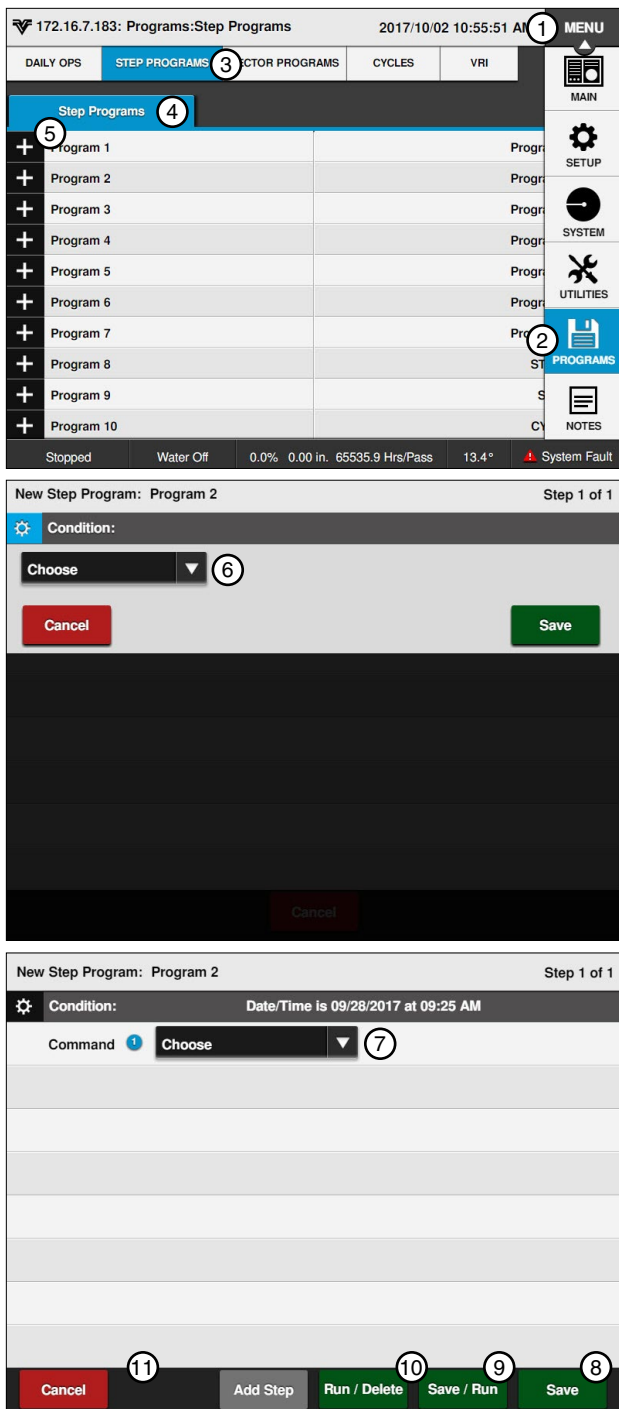

Figure 100-1 1. Menu 7. Choose Command
2. Push the **New Program** button corresponding to the preferred program number as shown in Figure 100-1.
3. Select the **Choose Condition** drop-down menu and choose a condition for this step. Refer to Figure 100-1.
4. Select the **Choose Command** drop-down menu and choose a command. Refer to Figure 100-1.